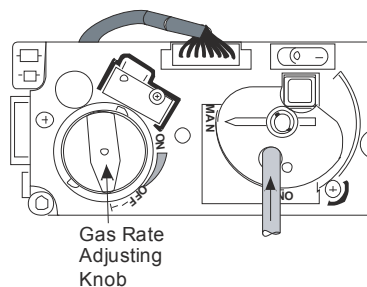

Figure 18
4. Using a rigid slender object (like a screwdriver) depress the pilot valve operator through the large hole in the knob (see **Figure 18**) and light the pilot using a match or lighted taper.
9. To turn the pilot off place the **ON/OFF** switch to **OFF (O)** position.